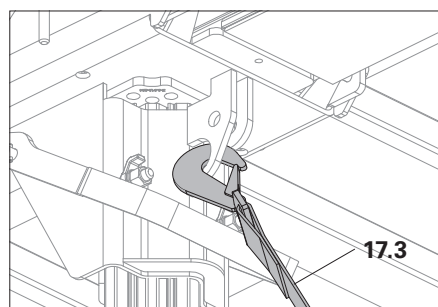
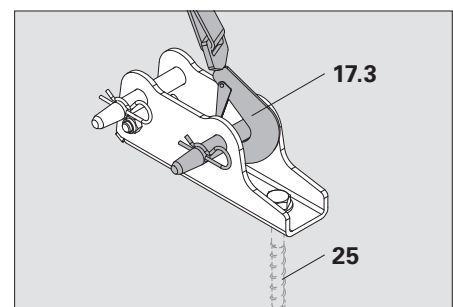

Fig. A4.05a
Fig. A4.05b
- Tension Belt (17.3) and Base Plate-2 for RS (18), e.g. Tension Belt STL.B.
- (Fig. A4.05a + Fig. A4.05b)